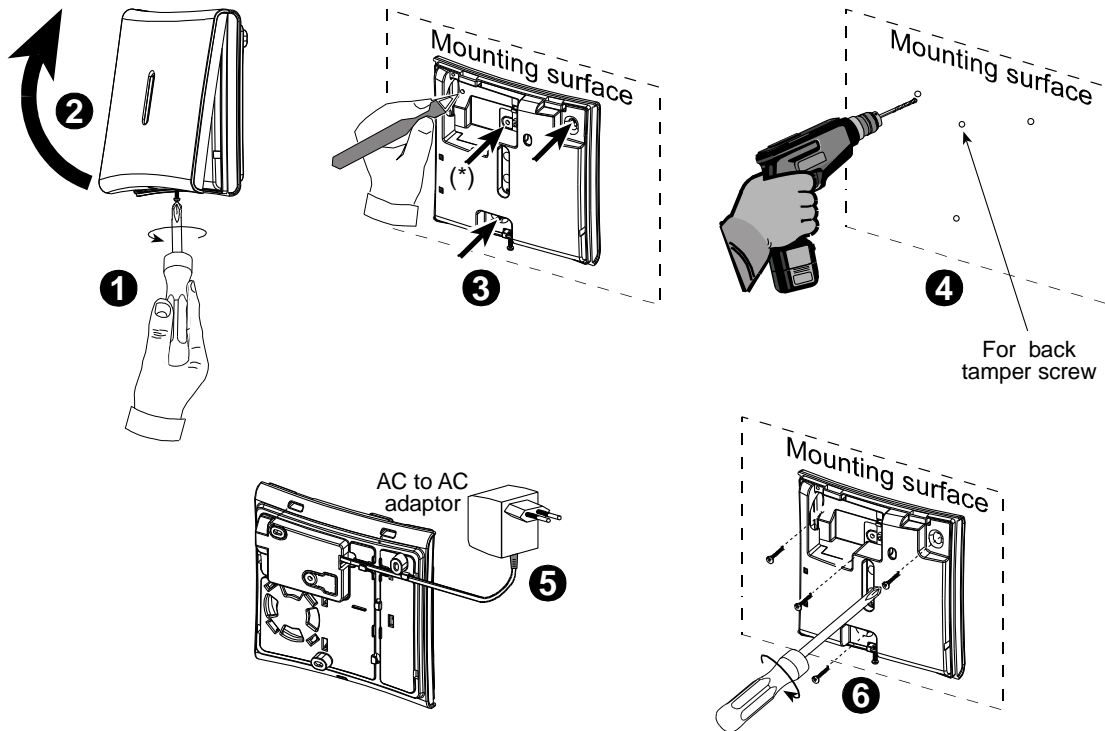

Figure 3 - Installation
- D. Mount the repeater in the selected location as shown in Figure 3.
This function allows you to test the signal strength of the enrolled devices as seen by the repeater. Before testing, separate the base from the cover (see Fig. 3).